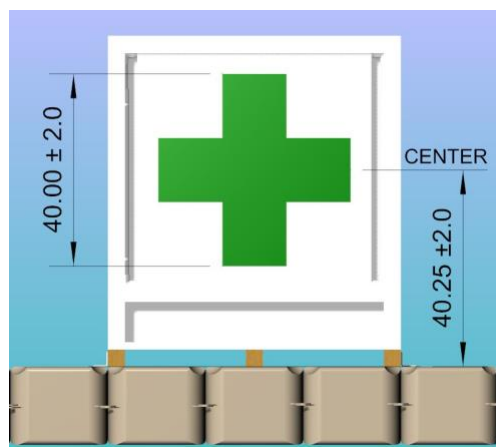
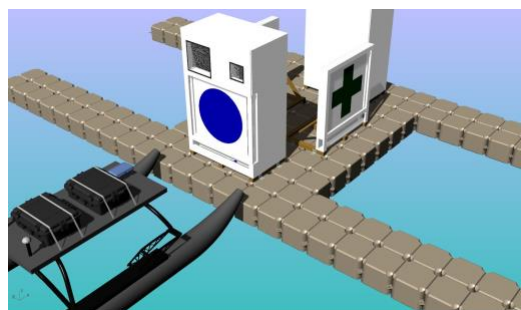

Figure 15. Front View of Docking Symbol
Figure 16. Detect and Deliver Structure
The Detect and Deliver task will be configured as shown in Figure 15 with symbols similar to those used in the 2016 RobotX Challenge. Dock materials will be the same as those used in 2016. The dock material to be used will be the same as what is used for the Identify Symbols and Dock task, listed in Table 6.
For each run, teams will be provided with four (4) balls described in Table 7. The AMS must detect the correct symbol on the target face. The target symbol will be at least 1m across. Once detected, the system must place or launch the balls into one of the two target holes on the upper part of the floating platform. There will be two holes, one larger than the other, each outlined in black on a white background. The larger hole will be a square 0.5m on a side, and the smaller hole will be a square 0.25m on a side. Figure 16 depicts a concept drawing of the DETECT AND DELIVER task. For the Semi-finals and Finals, this task will be paired with the Identify Symbols and Dock task as depicted in Figure 15, and the correct symbol may be determined by the AMS successfully completing other tasks.